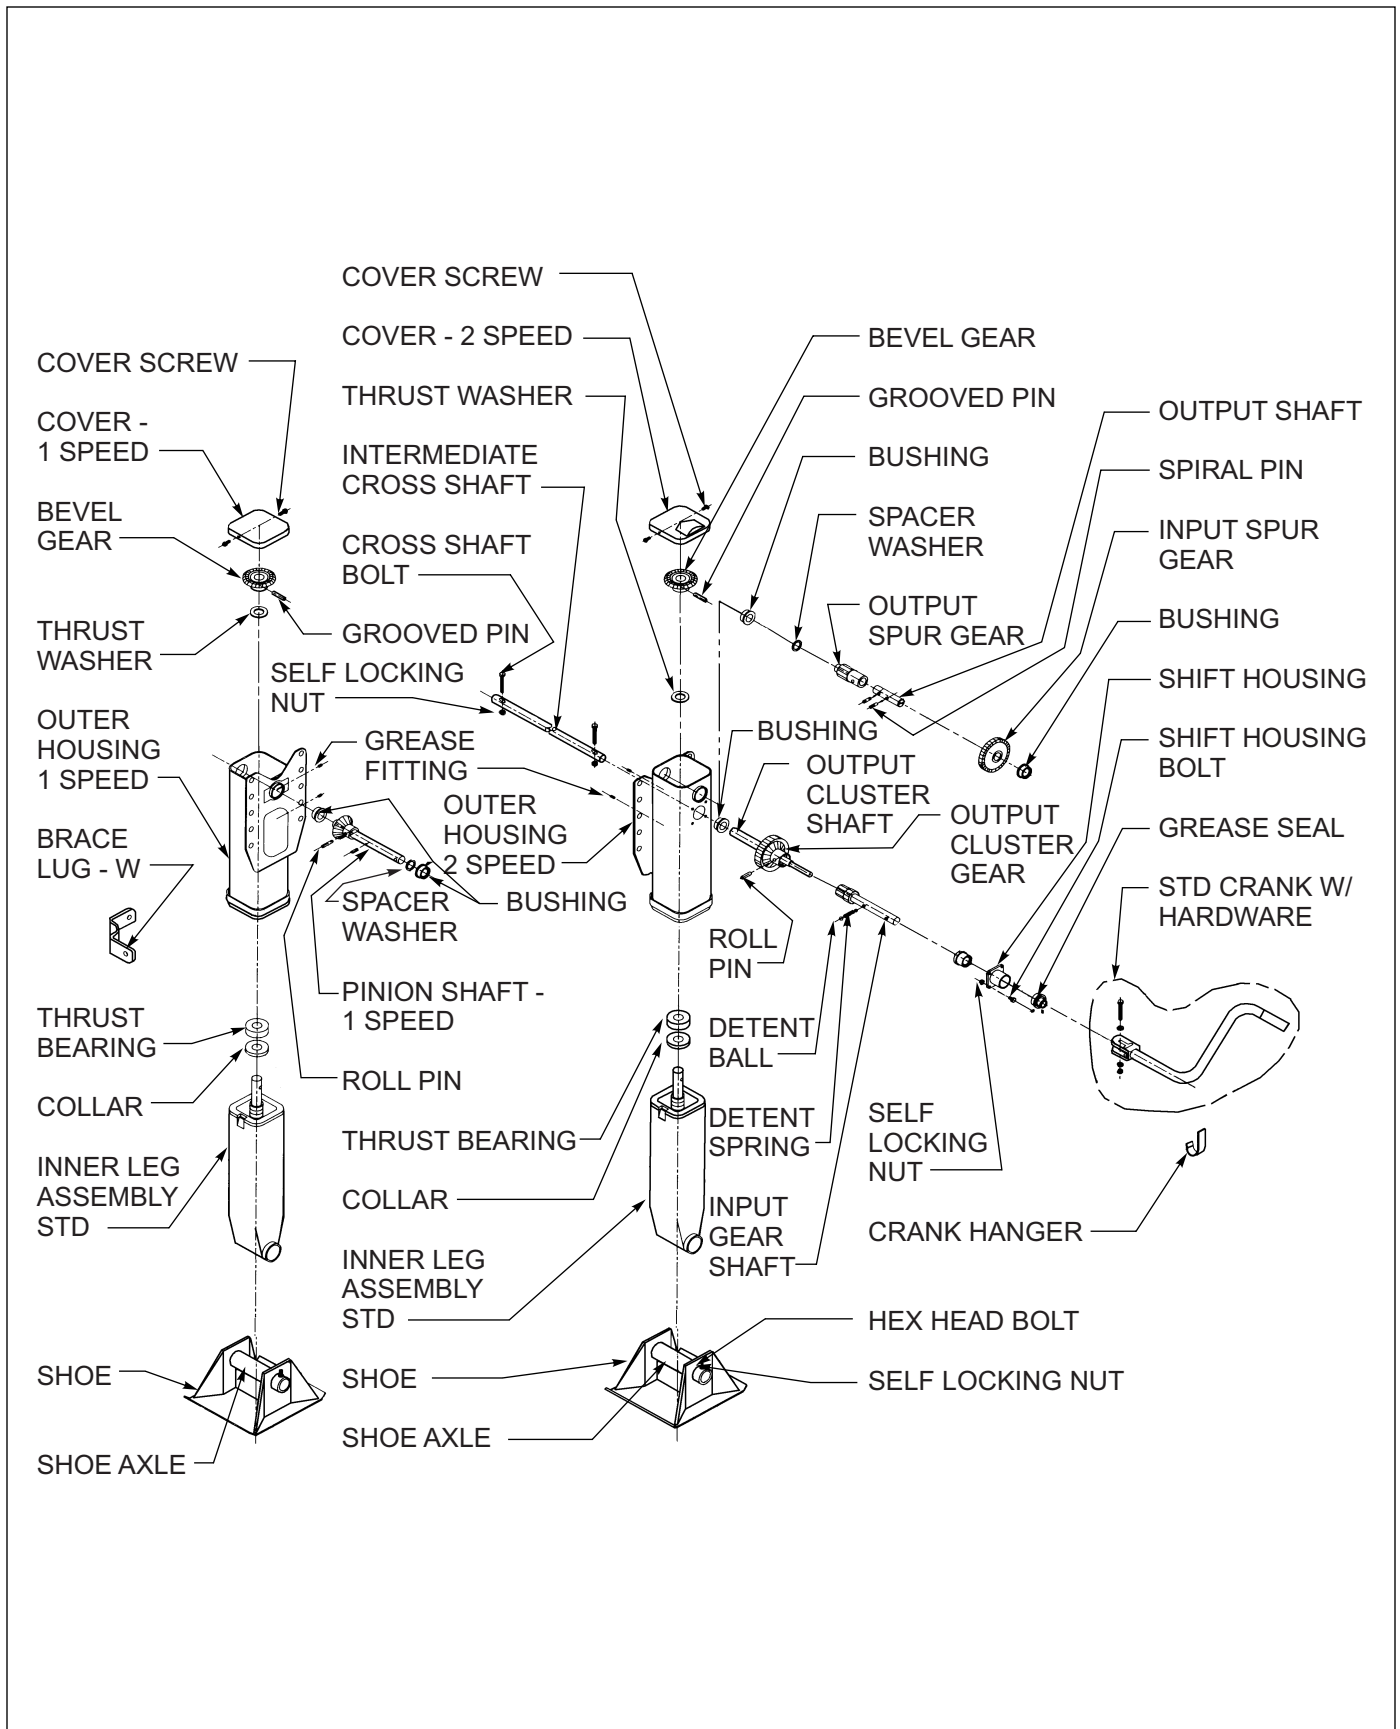

Figure 4-23: Crank Landing Gear Assembly
2. The elevating screw is lubricated by the lower grease fitting located on the upper housing (**See Figure 4-23**) prior to lubrication, extend the landing gear as far as possible. During lubrication, slowly retract the landing gear. The upper grease fitting lubricates the gearing, shafts, and bushings. It is recommended to use a high quality commercial grade lithium EP-2 grease.